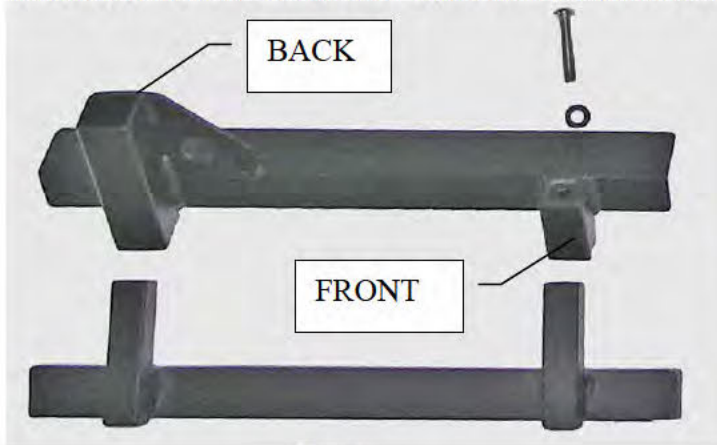

**Fig. 2**
1. **Attach Legs to Crossbar.** After you have inventoried and inspected all parts. Examine a Crossbar (A) and notice that the bottom of each crossbar has tubular extensions that project downward. If they contain screws and washers, remove them. Examine the Legs (B) and notice that each contains a hole that is several inches from the top end. As shown in Figs. 2 and 3, slide the Leg on to the projection so that the hole in the Leg aligns with the hole in the projection and the hole in the brace. Place a nylon washer onto a 1-inch long button head cap screw and thread it into each hole; tighten firmly with the Allen wrench.